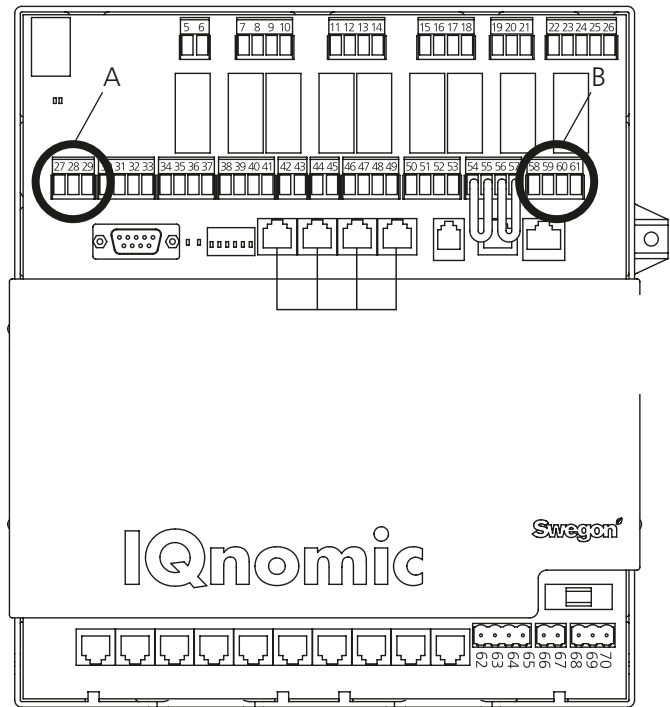

Fig. 5
Connect the 24 V AC supply voltage to terminals Vin+ (24) and GND (23). Supply voltage can be obtained from the control unit of the air handling unit, see below and B in Fig. 5.
Connect the network from the GOLDen GATE communication unit to the control unit of the GOLD (A in Fig. 5). Use a 3-wire cable.